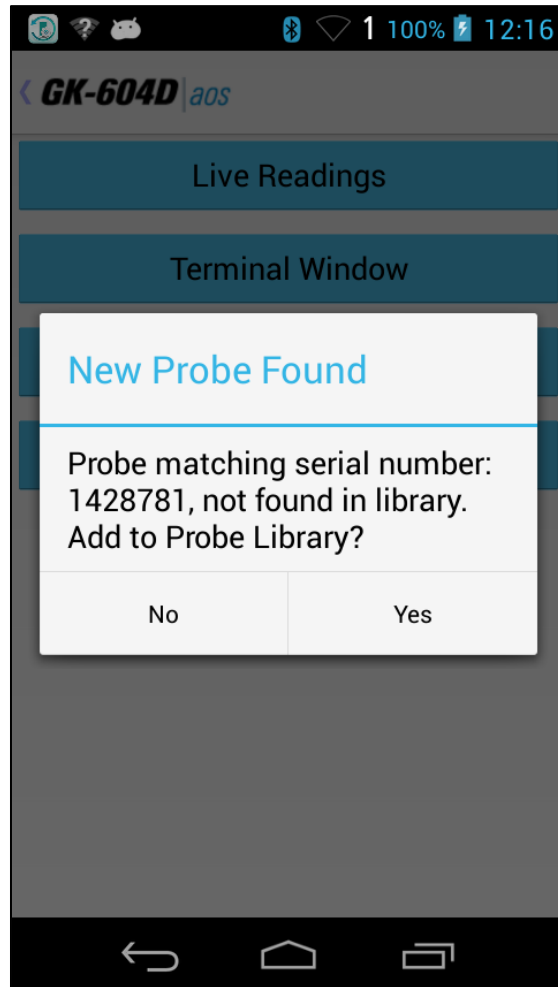

Figure 8- New Probe Found
- a. If the window shown in Figure 8 is displayed, then the probe has not been previously detected by the GK-604D | aos. In this case, tapping "Yes" will cause the probe to be added to the Probe Library and the Probe Settings screen shown in Figure 9 to be displayed. This allows an opportunity to give the newly detected probe a user friendly name and description. See section 4.2, Probe Configuration for more information on probe settings. When satisfied with the settings, tap "<" in the upper-left corner of the screen to exit (and save) the Probe Settings screen (see Figure 9).